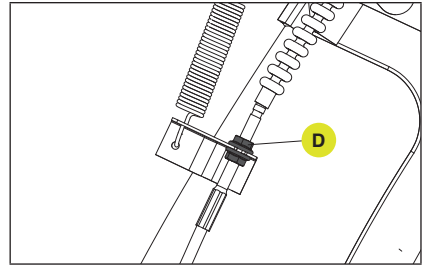

Figure 48
5. Rotate the upper nut (D) clockwise to move the nut downwards against the bracket. Tighten these two nuts until snug. (Fig. 48)